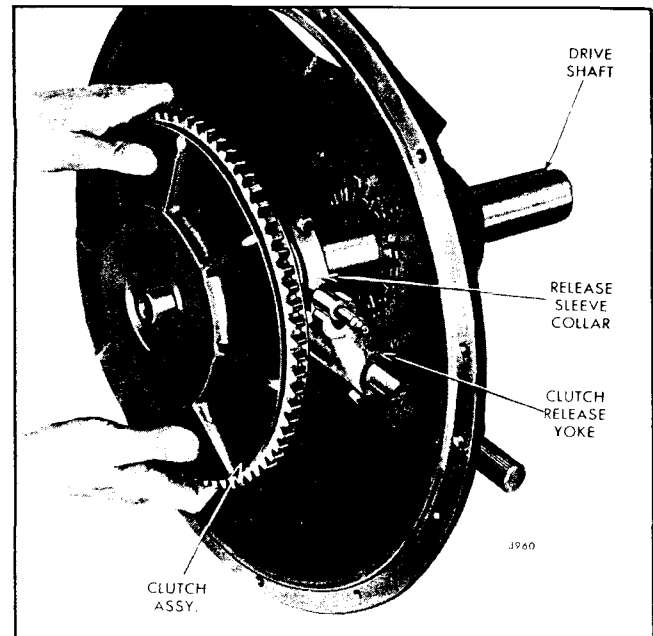

Fig. 17 - Installing Clutch Assembly
2. Lubricate the inside diameter of the clutch release sleeve with engine oil. Then start the clutch assembly over the tapered end of the clutch drive shaft with the keyway in the hub of the outer pressure plate in line with the keyway in the clutch drive shaft. Position the clutch release sleeve collar so that the grease fitting in the end of the release sleeve collar trunnion faces the opening in the side of the clutch housing; then guide the fingers of the release yoke over the trunnions on the release sleeve collar as shown in Fig. 17.